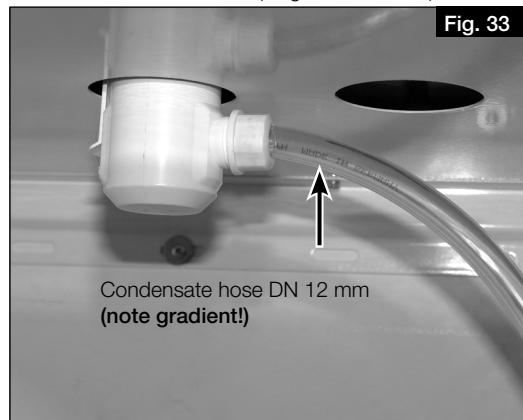

Fig. 33
6. Connect condensate hose (length max. 1.5 m) to the building drainage system (see Fig. 33).